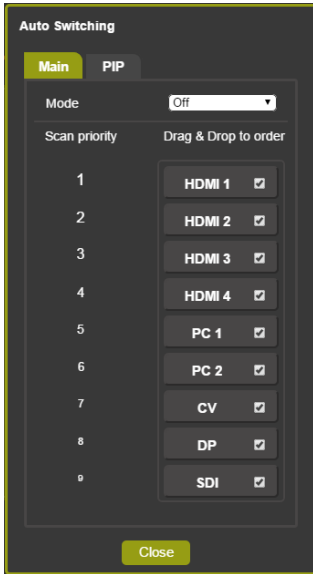

Figure 48: The Routing & Scaling Page – Auto Switching Window (Main Tab)
Click the Auto Switching button to open the Auto Switching window (see Figure 48). The Auto Switching window lets you set the Main and PiP scanning mode separately to:
When Scan mode is activated, the system scans the inputs from the highest to the lowest priority in search of a valid input signal for each the Main and PiP windows. The priority is ordered from the lowest input number (9) to the highest (1). For example, if PC 1 and HDMI 2 have a valid signal and auto switching is enabled, the **VP-774AMP** will scan through the inputs and select the HDMI 2 which is higher in the priority list (see Figure 48). Once the signal is no longer valid on HDMI 2, the **VP-774AMP** will scan for the next highest-priority valid signal.